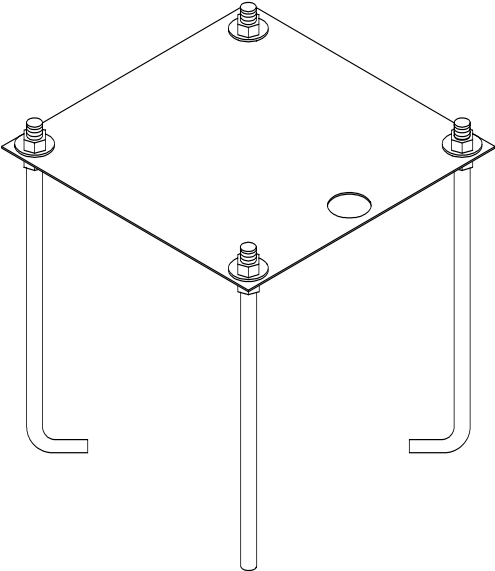

FIGURE 2.3-3. Template and Anchor Bolt Assembly
Step 4 - While the cement is setting, assemble the template and anchor bolts as shown in Figure 2.3-3. Set the anchor bolts and template in the cement so the conduit is coming through the conduit hole in the template. The threaded end of the anchor bolts should extend a minimum of 1.75" above the top of the concrete. This will allow the template to rest on the lower set of nuts about 1" above the surface of the concrete (Figure 2.3-1). Adjustment of the lower set of nuts will allow you to level the template and later the 012 weather station. Do not remove the template. It is used as the bottom for the pedestal base when the weather station is assembled.